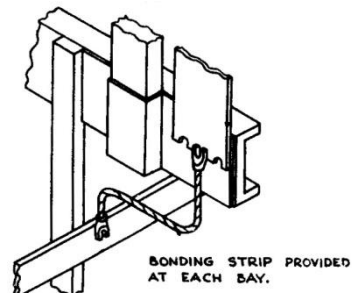

FIG. 35. CONNECTION OF PROTECTOR STRIPS TO EARTH BAR.
- (2) Gaps in Protector Field. Where a protector strip is not installed in the vertical, the frames of adjacent protectors must be joined, with bare copper wire (7/.036) (fitted with a lug and connected to the bonding strip at each end.) Similar arrangement to Fig. 35.
- (3) Connection of Protector Strips to Earthing Bar. The bottom strip in each vertical must be connected to the earthing as in Fig. 35.